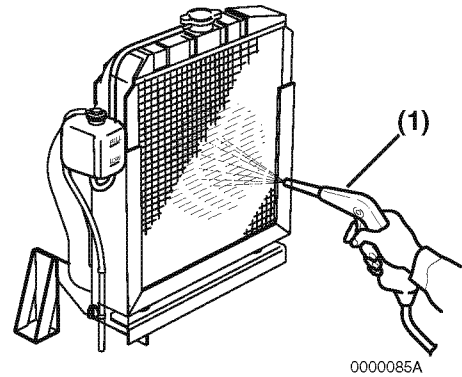

Figure 5-10
Note that a typical radiator is shown in **Figure 5-10** for illustrative purposes only.
- Blow off dirt and dust from fins and radiator with 28 psi (0.19 MPa; 2 kgf/cm²) or less of compressed air (**Figure 5-10, (1)**). Be careful not to damage the fins with the compressed air.